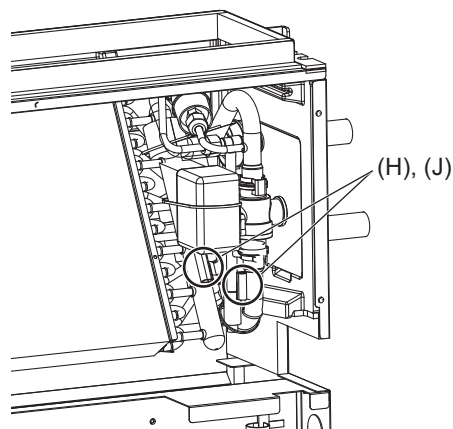

Fig.9
- (5) Remove the thermistor (H) from the thermistor holder (J) on the copper tube. (Fig.9)